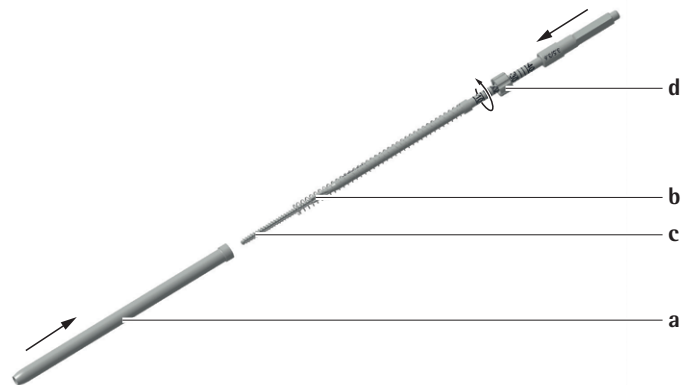

Fig. 67
- ▶ Slide the sleeve a with spring b over the tap c in the direction of the arrow and fasten it by turning the nut d clockwise, see Fig. 67.